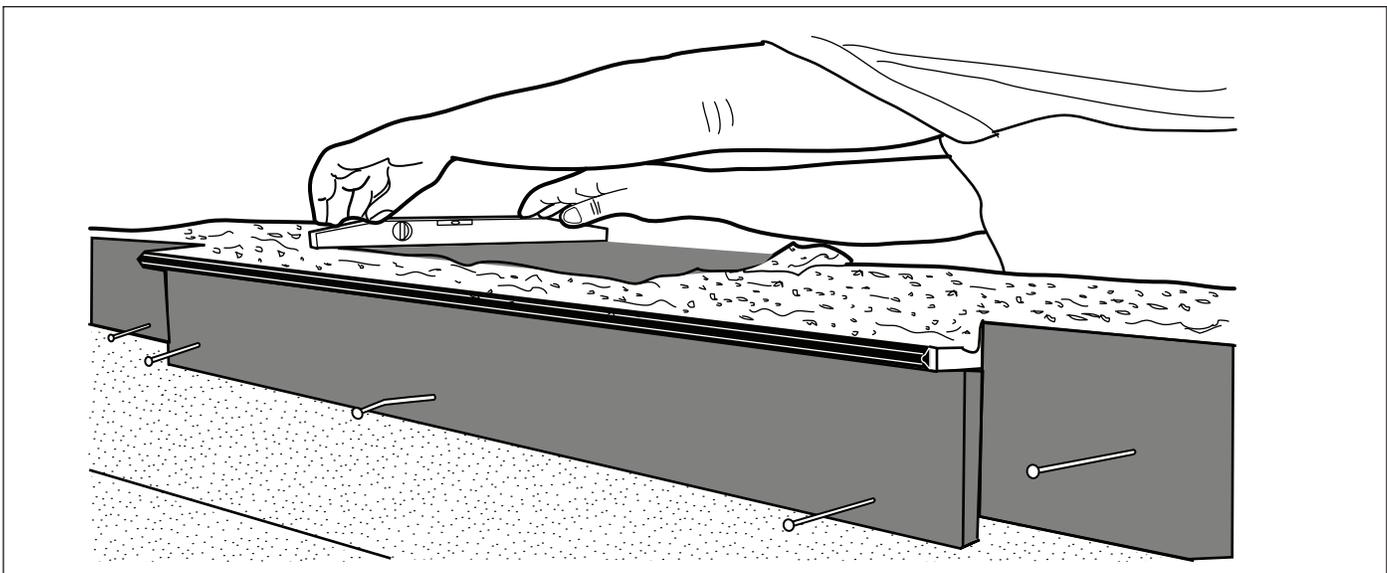

Figure 8. Slope Surface Towards Back of Waterfall
4. Apply 5/8 inches of cement finishing to top, sides and back of waterfall to encase unit. Slope top surface slightly towards back, 1/4 bubble on level. Refer to Figure 8.